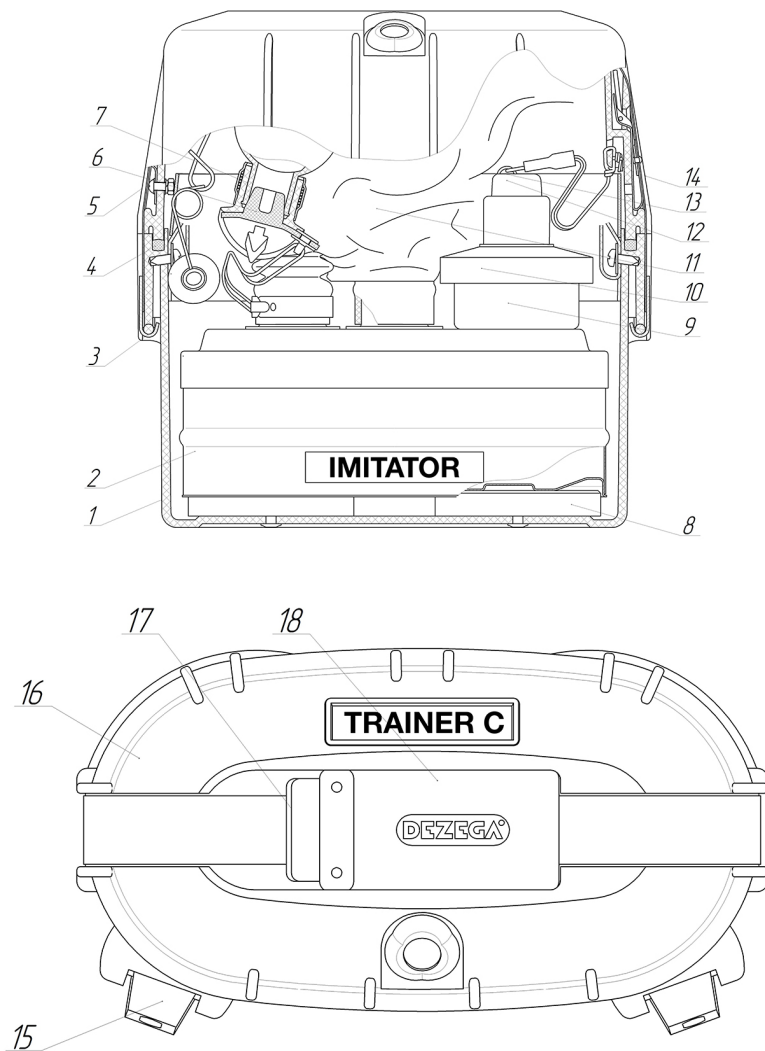
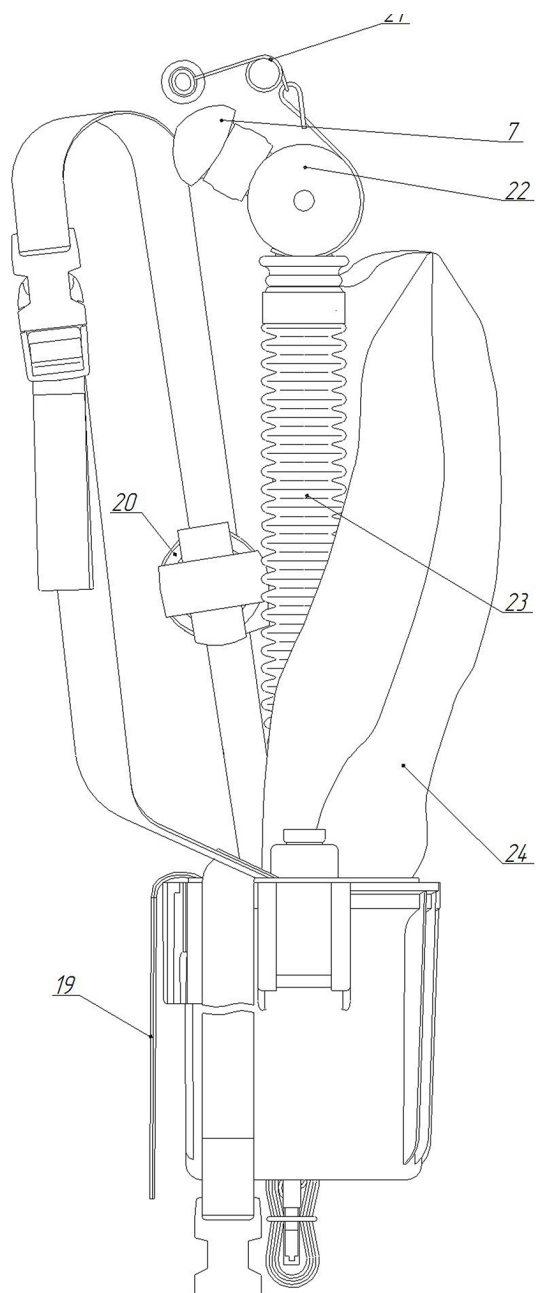
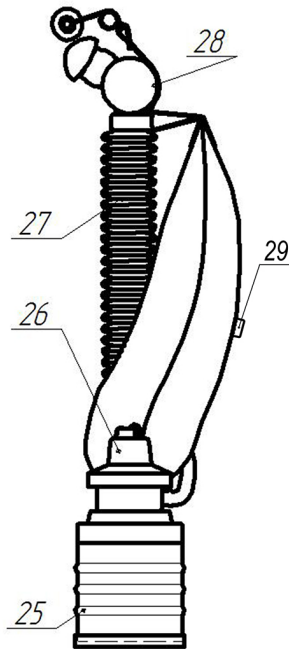

Fig. 2—General view and arrangement of the self-rescuer TRAINER C
Fig. 3—The self-rescuer TRAINER C in application mode
Fig. 4 — General view of disposable training kit for breathing conditions training
General view and arrangement of the SCSR TRAINER C with an imitator cartridge are shown on Fig. 2, general view of the SCSR in application mode—on Fig. 3, general view of a disposable training kit to practise breathing conditions—on Fig. 4.
The SCSR consists of the following parts (Fig. 2–4): case 1 with magnets 8 and heat shield 19, lid 16, imitator cartridge 2 or regenerative cartridge 25, air system 11, goggles 20 and belt loops 15 to fasten the SCSR on the belt. Air system 11 joined to the cartridge fittings consists of breathing bag 24, breathing hose 23, nose clip 21 and mouthpiece 7.
- while opening a lock lever 17 and shedding off a lid 16, split pin 13 (Fig. 2 and 3) is taken out of the starter simulator 9 overcoming the magnet 12 force. The lock opening force and the force of magnet breakout from the SCSR TRAINER C starter simulator are the same as those of the SCSR Ci-30 KS. Due to this feature, a donning skill is trained;
- when opening a lock lever 17 and shedding off a lid 16 (Fig. 2, 4), starter 26 trips automatically and breathing bag 24 fills up with oxygen necessary for human breathing at the initial period. The lock opening force and the start-up force of the SCSR TRAINER C starter are the same as the parameters of the SCSR Ci-30 KS. This feature enables training of the donning skill;